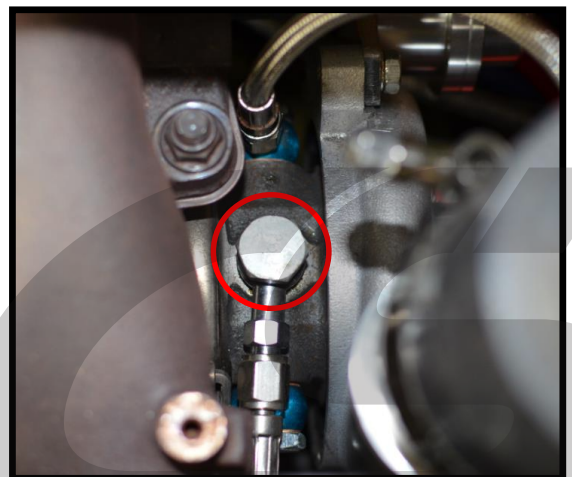

Figure 9a
- a) Remove the 14mm oil feed banjo bolt, **circled in red** in **Figure 9a**.